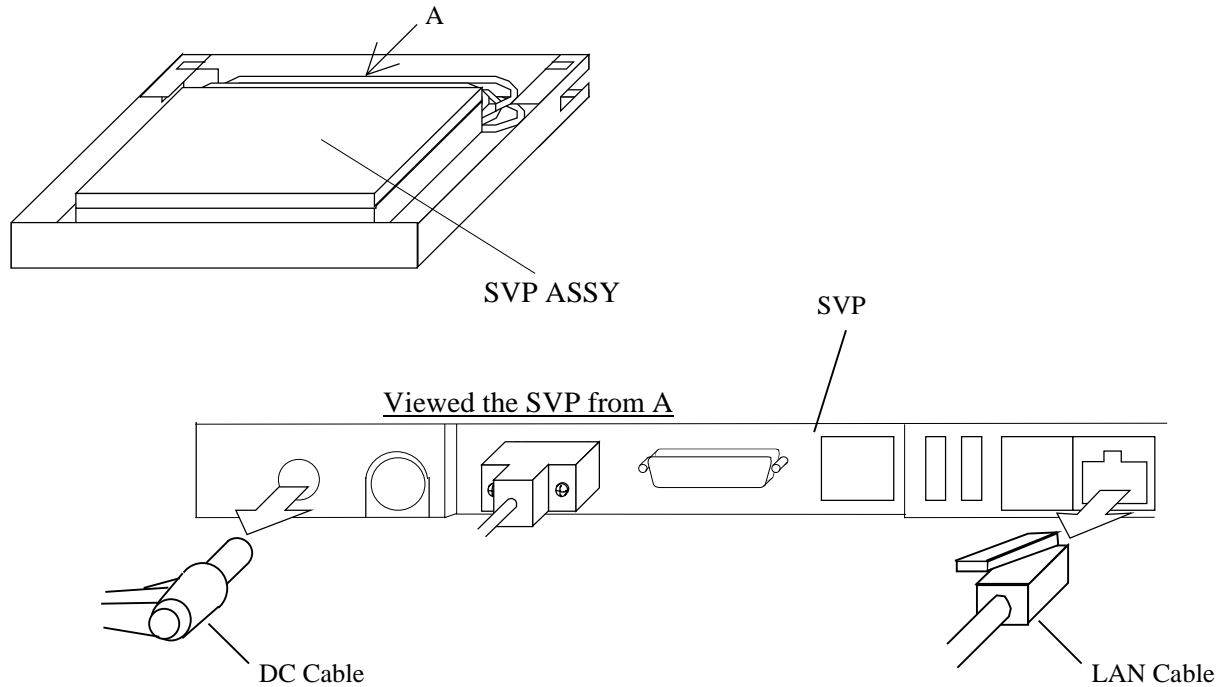

Fig. T7.3-1 Removing and installing Cables
- c. Connect the LAN cable and DC cable to the SVP. (See Fig. T7.3-1.)